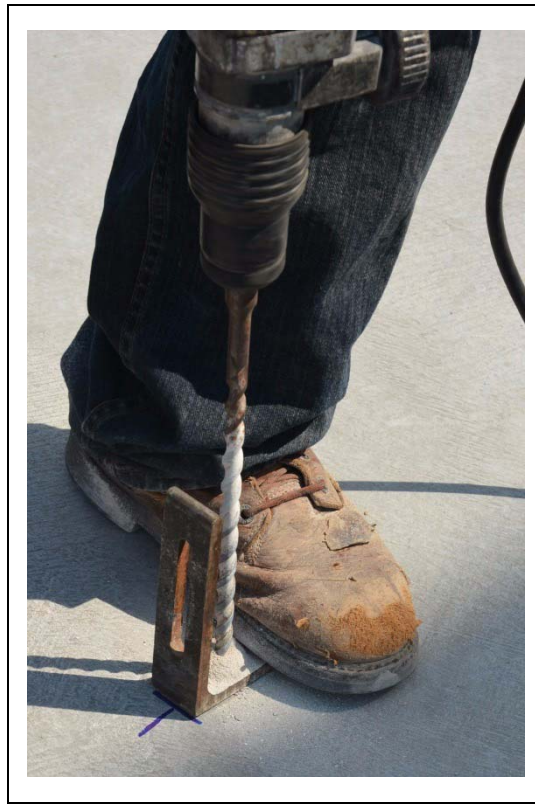

Figure 7J
13. Drill the hole through the concrete using the jig clip as a guide. *(See Figure 7J.)*